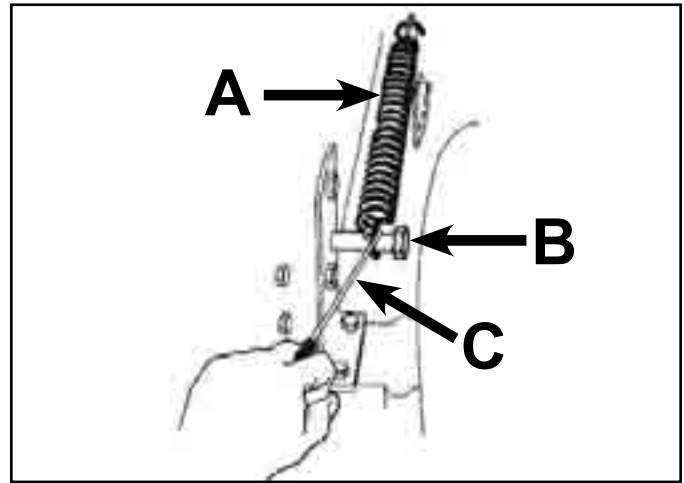

Fig A6 004
5. Remove the height-of-cut lift assist spring from the retaining bolt. The spring is between the frame and the right rear wheel (Fig. A6 004).